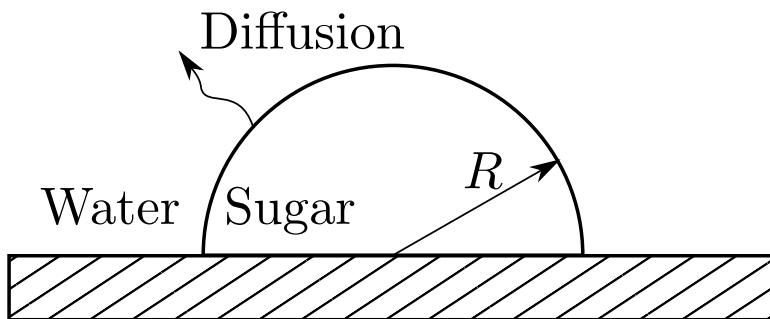

Figure 25: The lump of dissolving sugar.
- b) A hemispherical lump of sugar, initially of radius  $R = 0.005$  m, is dropped into a cup of tea, quickly coming to rest on the bottom of the cup as shown in Fig. 25. The sugar lump then slowly dissolves into the tea. The diffusion coefficient of sugar in tea is  $4 \times 10^{-10}$  m2 s-1. The saturation mole fraction of sugar in tea is 0.1 and the total molar density of the system is  $c = 55 \times 10^3$  mol m-3.